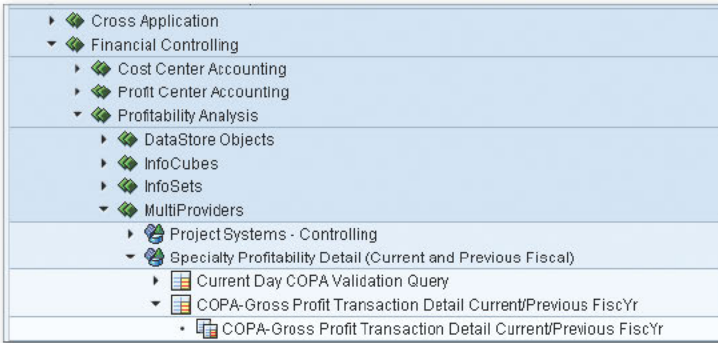
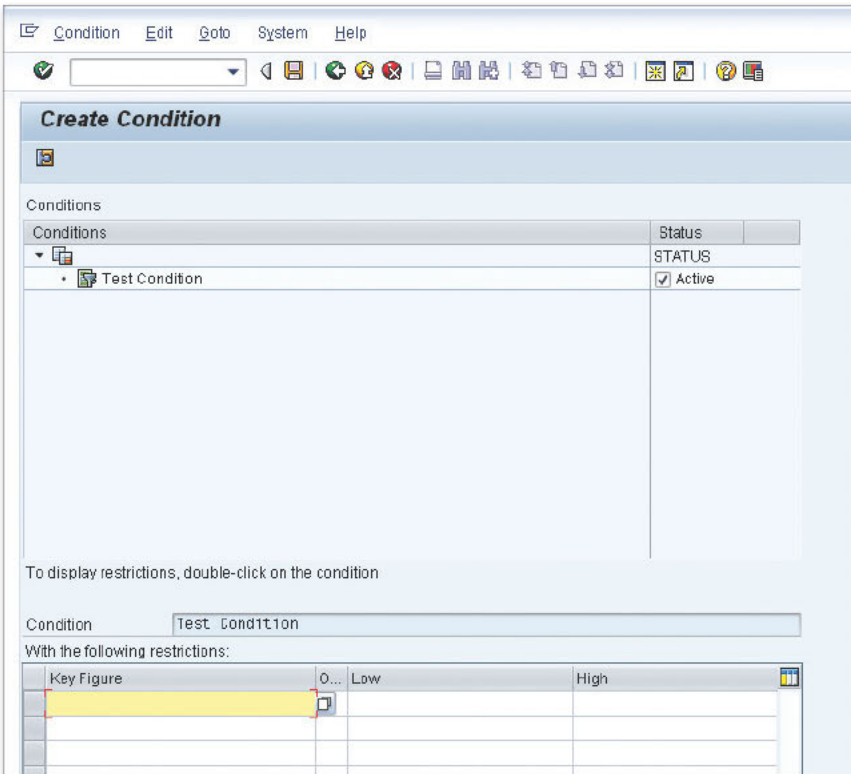

Figure 1 Select Desired Query
Figure 2 Create Condition Pane
1. Navigate to the desired query and select it (see Figure 1).
2. After the query pane is open in SAP NetWeaver BW, click on the **CONDITIONS** button on the toolbar. You'll see the **CREATE CONDITION** area as shown in Figure 2.
1. Open the BEx Query Designer, and open an existing BEx query. After the query is open, observe the FILTER pane (Figure 1) and the ROWS/COLUMNS pane (Figure 2). Characteristics CUSTOMER and CUSTOMER CHAIN are present in the FILTER tab and ROWS/COLUMNS tab through the ROWS and FREE CHARACTERISTICS panes.
« Figure 1 Filter Pane with Customer and Customer Chain ID
» Figure 2 Rows/Columns Pane with Customer and Customer Chain ID